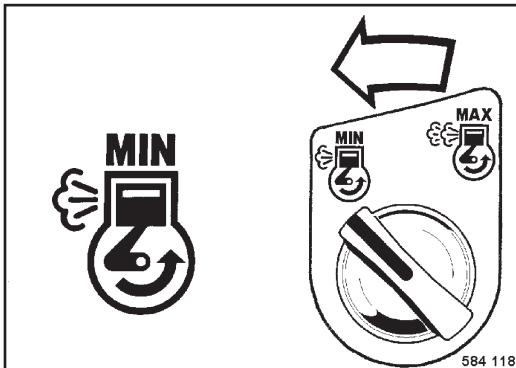

Fig. 54
- Turn rotary switch (Fig. 54) to position "Min" (idle speed).